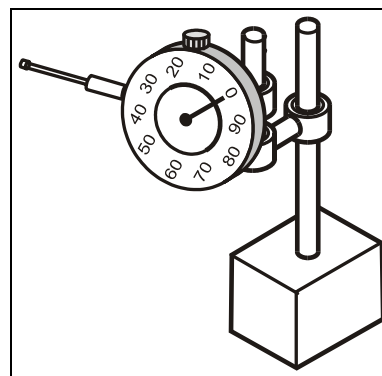

Figure 3-11: Dial Indicator
2. Secure the dial indicator to the drive wheel electric motor casing so the indicator button contacts the rotor at about 0.50" (13 mm) from the outer edge of the rotor. Set the dial indicator to zero (See Figure 3-11).